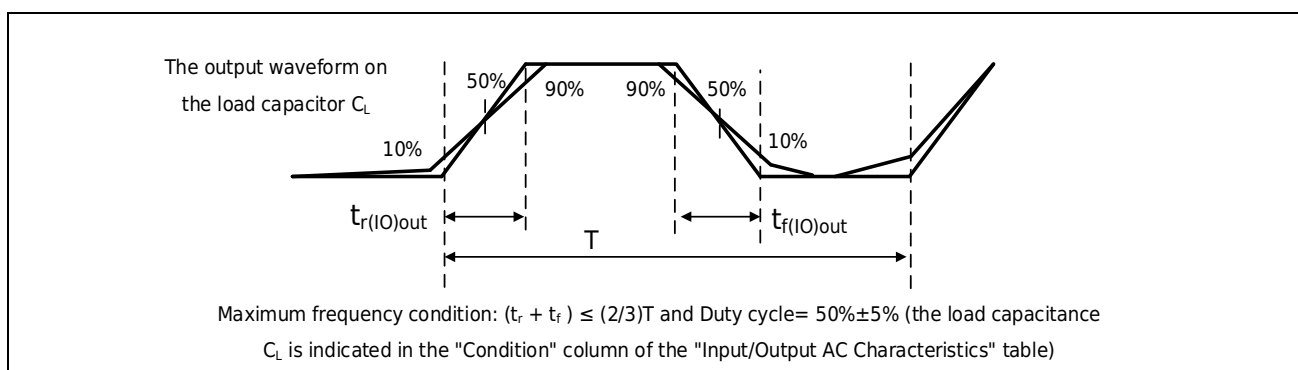

Figure 3-6 Definition of I/O AC Characteristics
1. The maximum frequency is defined in Figure 3-6.